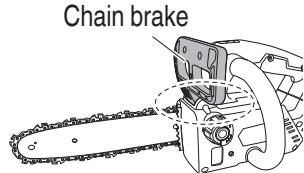

Fig. 46
5. Cleaning the chain brake (Fig. 46)